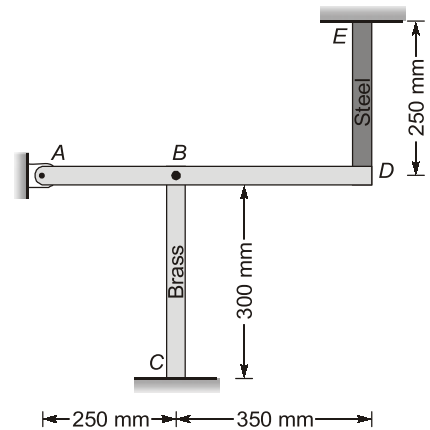

Fig. 1.6
**Q.1.7** A rigid bar  $AD$  is pinned at  $A$  and attached to the bars  $BC$  and  $ED$  as shown in figure 1.6. The entire system is initially stress free and weight of all bars are negligible. The temperature of the bar  $BC$  is lowered by  $25^\circ\text{C}$  and that of bar  $ED$  is raised by  $25^\circ\text{C}$ . Neglecting any possibility of lateral buckling, find the normal stress in bars  $BC$  and  $ED$ .